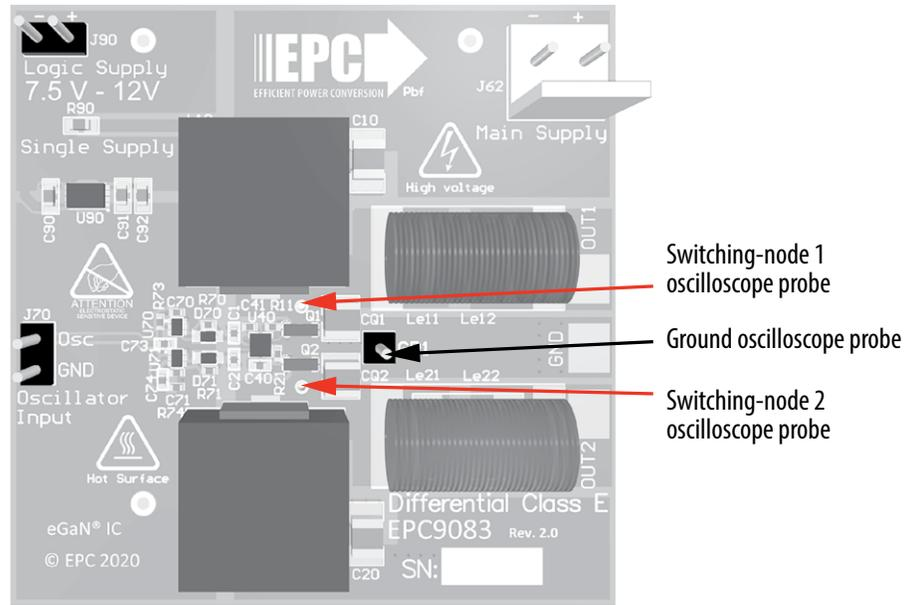

Figure 6: Proper measurement of the drain voltage
(See figure 6 of the EPC2207 datasheet)
**NOTE:** When measuring the high frequency content switch-node, care must be taken to avoid long ground leads. An oscilloscope probe connection (preferred method) has been built into the board to simplify the measurement of the Drain-Source Voltage (shown in figure 6). The choice of oscilloscope probe needs to consider tip capacitance where this will appear in parallel with the shunt capacitance thereby altering the operating point of the amplifier.